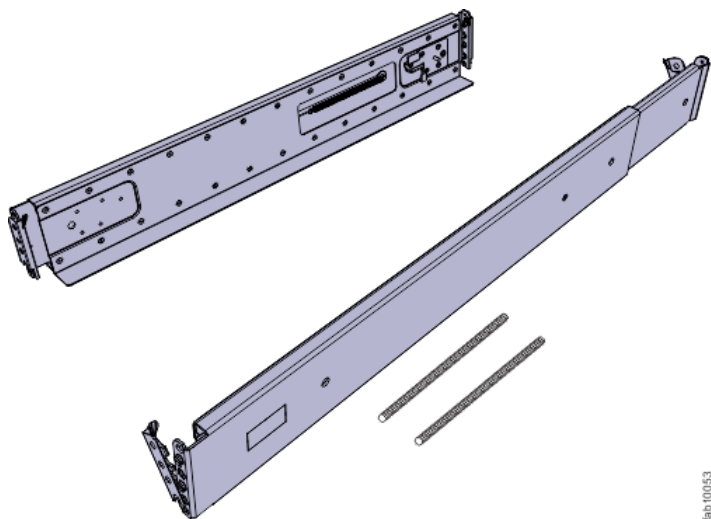

Figure 32. Expansion enclosure support rails
1. Locate the expansion enclosure rails (Figure 32 on page 65).